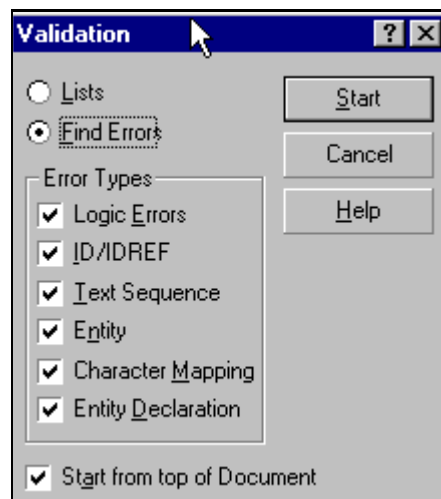

Figure 4-15 Validation Window
1. Click on the **Validate** button on the toolbar. The **Validation** window opens (see Figure 4-15).